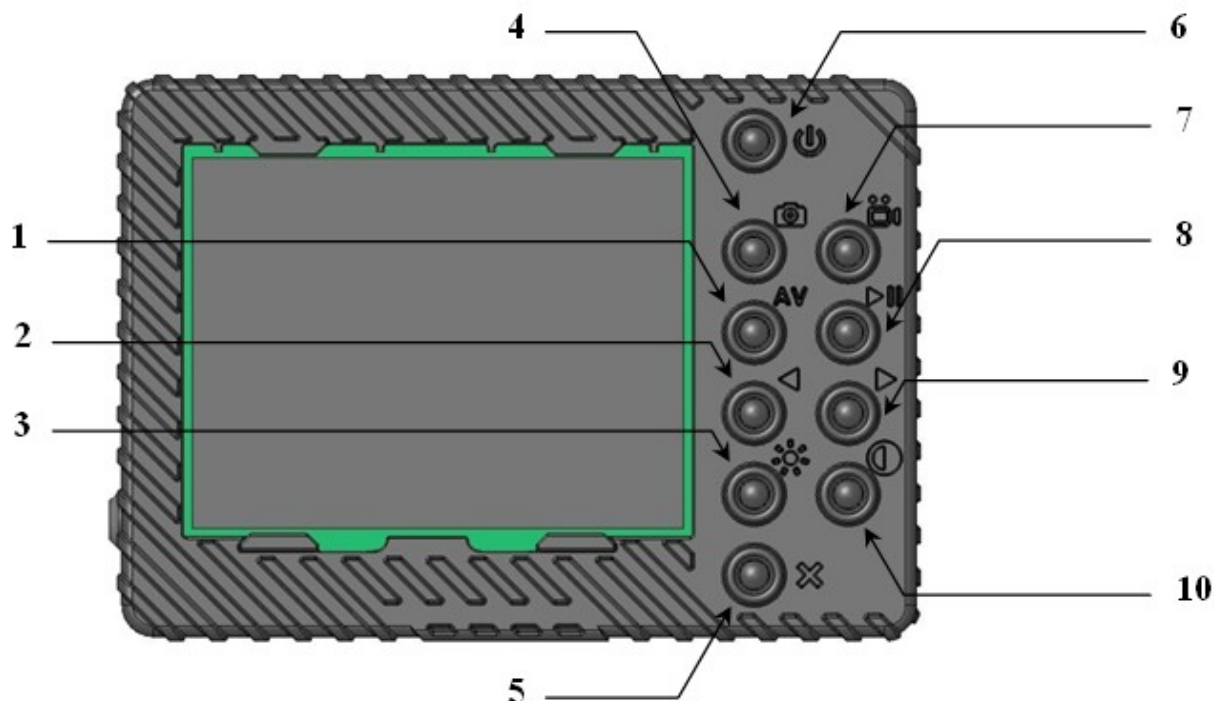

Figure 3.
1.4.3. Figure 3 shows the location and functionality of the buttons on the front panel of the keyboard.